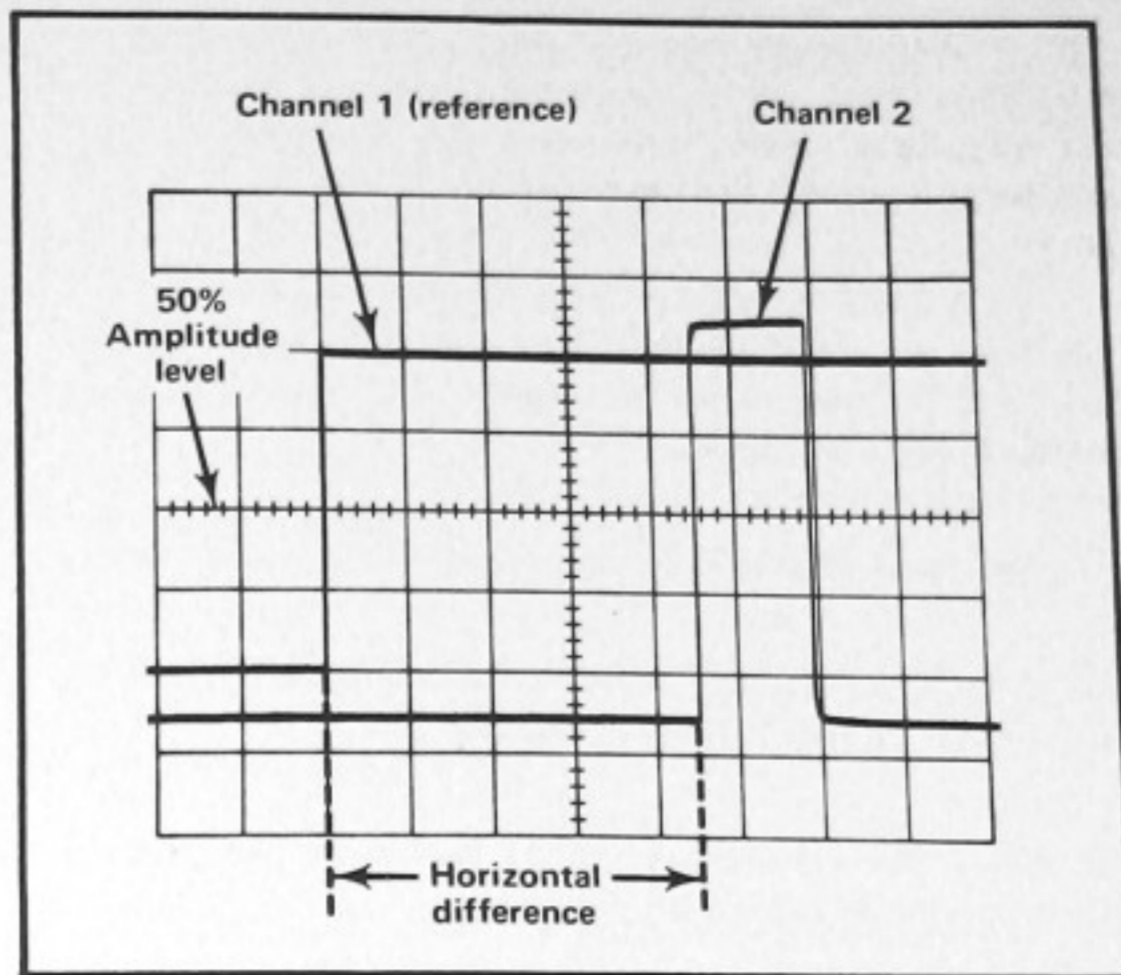

Fig. 2-11. Measuring time difference between two pulses.
11. Measure the horizontal distance between the Channel 1 waveform and the Channel 2 waveform (see Fig. 2-11).
EXAMPLE. Assume that the TIME/DIV switch is set to 50 μs and the horizontal distance between waveforms is 4.5 divisions (see Fig. 2-11).